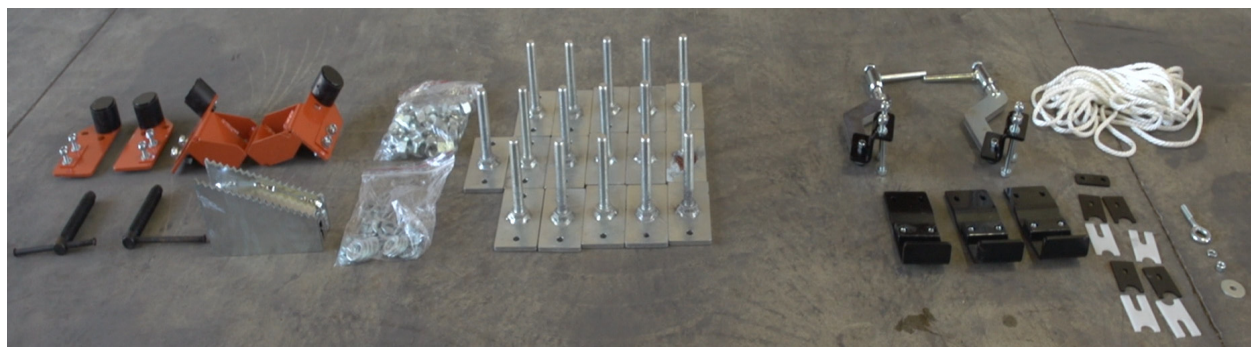

FIG. 3-2
- 4. Open the parts box and spread the parts out in an orderly fashion. See Figure 3-2.
- See Figure 3-2.**